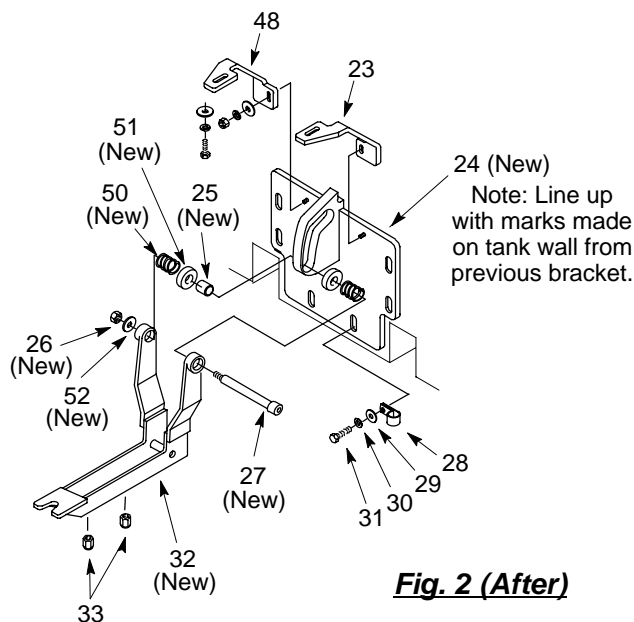

Fig. 2 (After)
6. Mount new bracket #24 to tank. Be sure to line up with the marks made on the side of the tank from the previous bracket (fig. 2).
7. Reinstall brackets #23 & #48 (fig 2).
8. Install new bracket #32 and related hardware (fig. 2).
9. Reinstall (2) nuts #33 (fig 2).